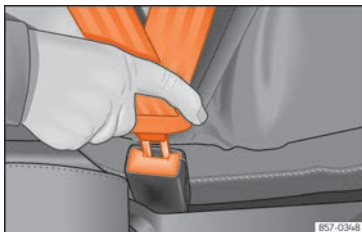

Fig. 23 Insert the latch plate of the seat belt into the buckle.
- Insert the buckle plate in the buckle of the correct seat » » Fig. 23.